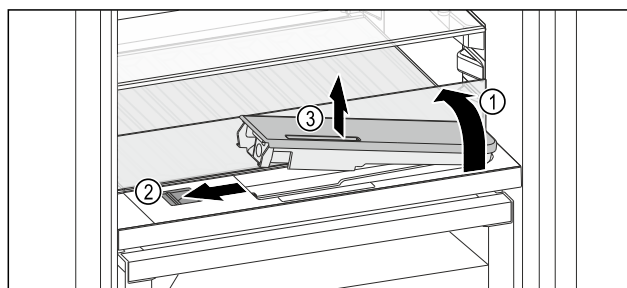

Fig. 135
- ▶ Lift the glass panel and fold towards the rear until it clicks into place Fig. 135 (1).
- ▶ Slide the slider Fig. 135 (2) to the left.
- ▶ Remove the water tank Fig. 135 (3).